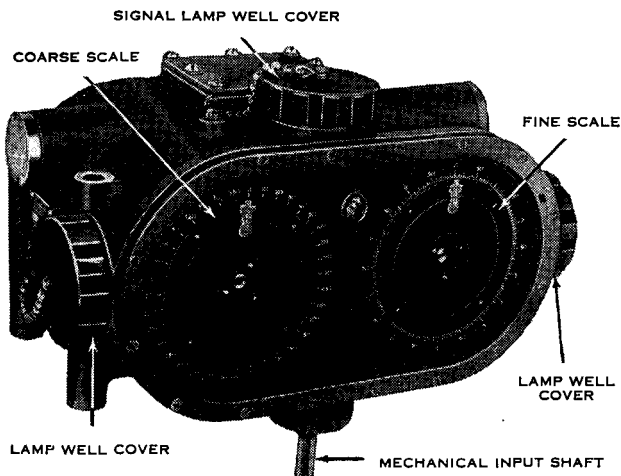

Figure 26. Elevation data indicator.
52. AZIMUTH AND ELEVATION DATA INDICATORS. a. **General.** The azimuth data indicator is located at the left front of the gun just ahead of the slow-motion handwheels. It is used to indicate the azimuth at which the gun is set and also the azimuth at which to set the piece when off-carriage fire control instruments are used. The elevation data indicator (fig. 26) is located on the